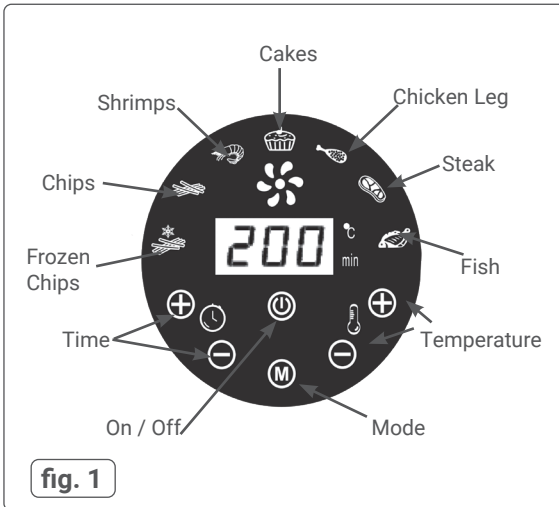

fig. 1
- To turn on the unit press the On/Off button (fig.1) and release.
- The fryer has 7 default modes which operate the fryer for pre-set time/temperature (see fig. 1 and Table 1).
- Alternative user defined modes can be achieved using Time and Temperature controls (fig.1). Suggested times and temperatures for a range of foodstuffs are listed in Table 2.
You have not set the timer	Set timer using Time button (fig. 1)